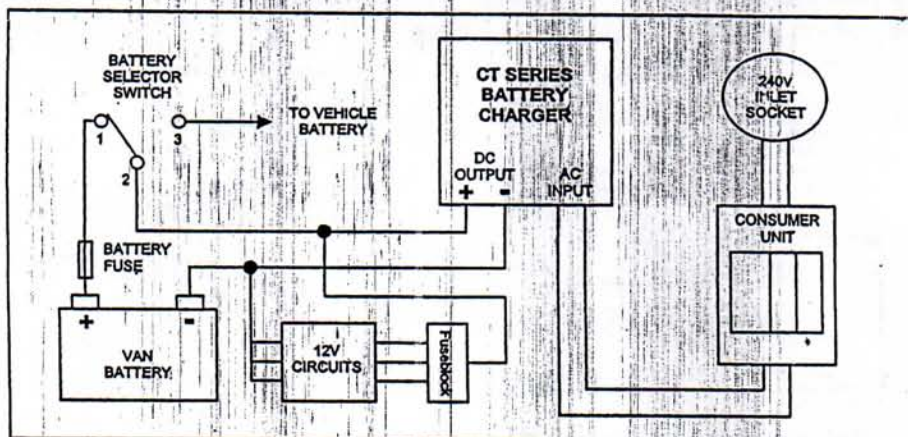
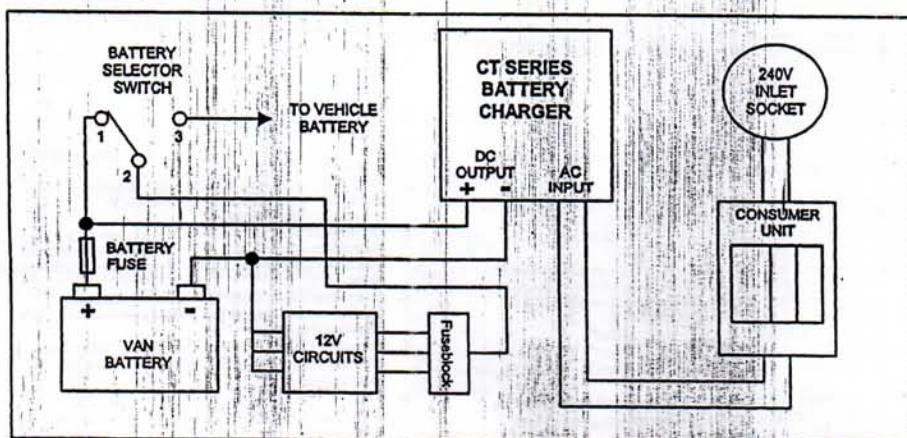

Fig 1 – Connection Diagram (Float Charge Mode)
Fig 2 – Connection Diagram (Fast Charge Mode)
- If the 'fast charge' mode is to be used, then the charger must be connected directly to the leisure battery (see Fig 2) In this mode the output voltage may be too high to directly power some 12V circuits, so care must be taken when wiring the unit. If the charger is only to be used in the 'float charge' mode then it may be connected as per Fig 1.